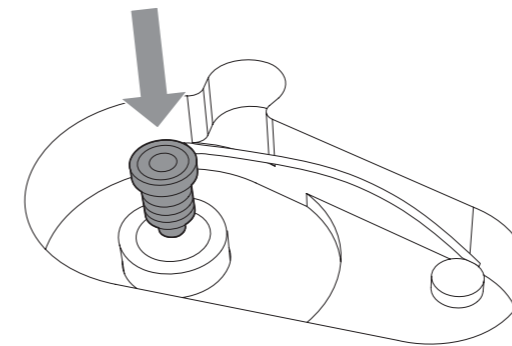

Fig. 4
1. Check if the Water Drain Cap at the bottom of Water Tank is closed well (see Fig. 4).